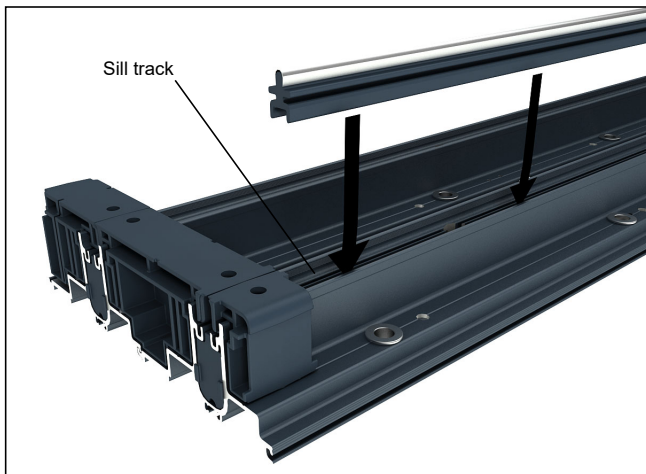

Figure 7
7. Press roller track(s) onto the sill track. See figure 7.